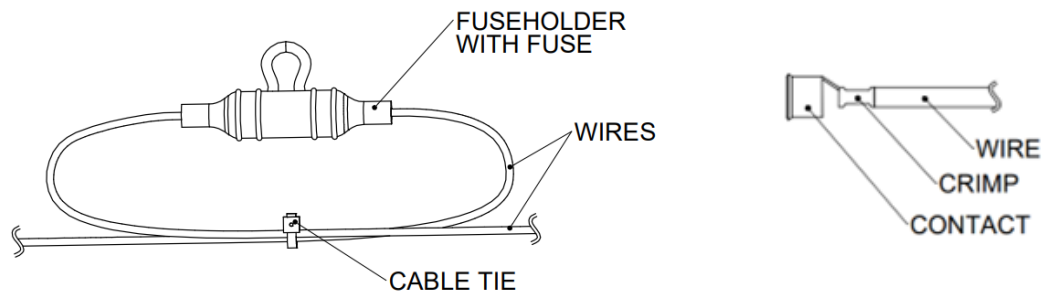

Figure 19: HFB Fuse Holder Installation
8. Loop the wires as shown in **Figure 19: HFB Fuse Holder Installation** and secure both wires together with a cable tie as shown.